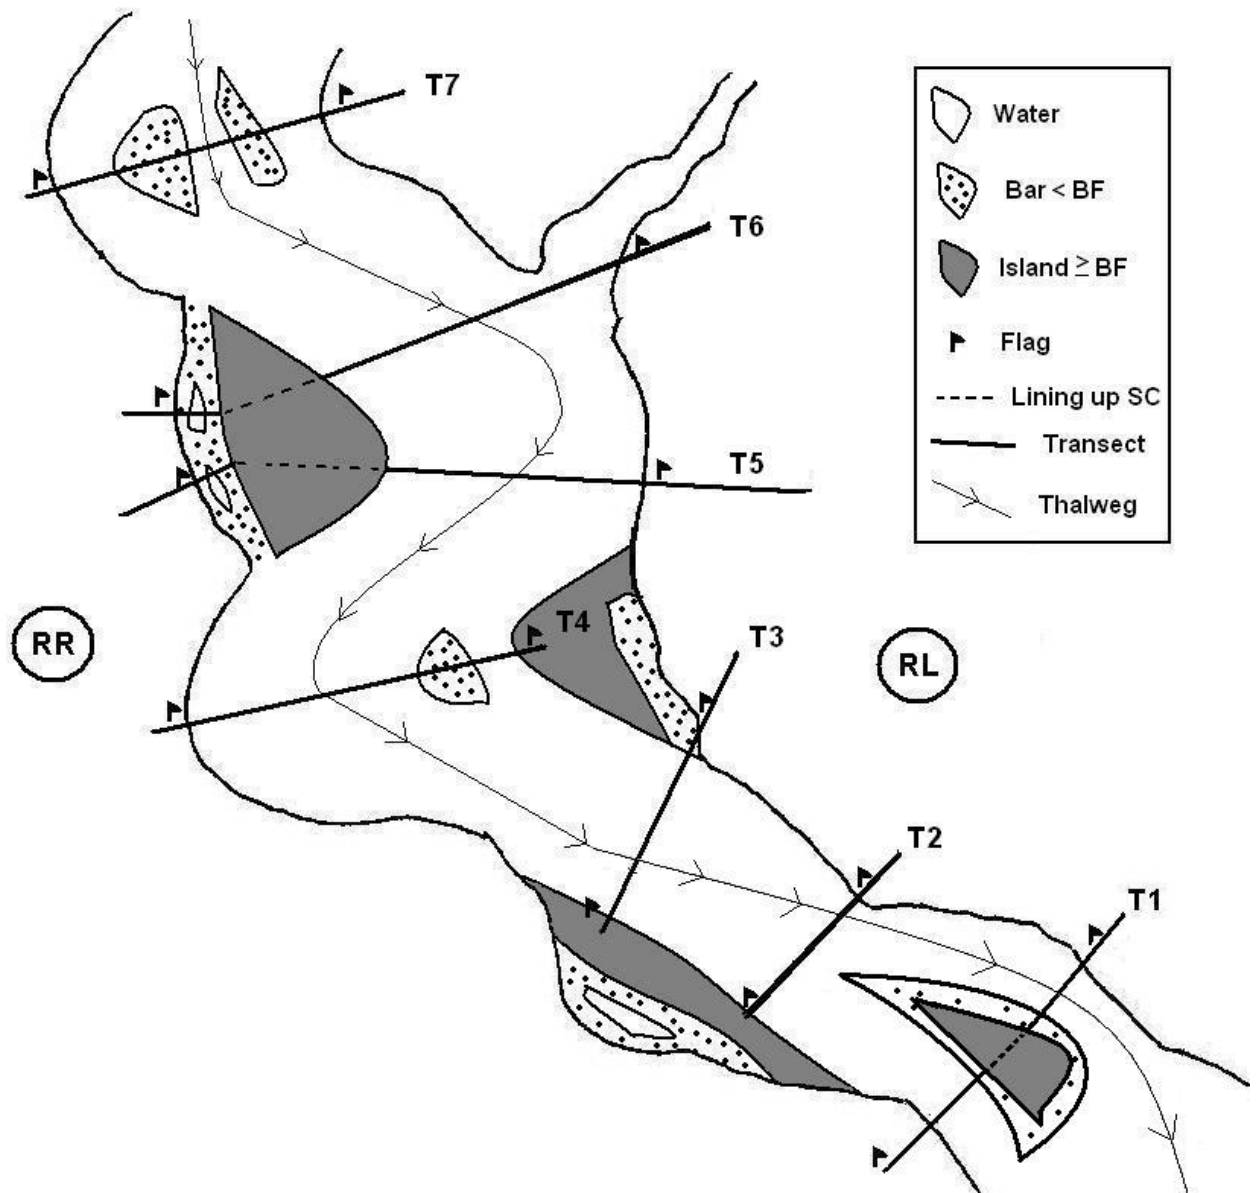

Figure 3: Transect placement when side channels are encountered.
- The main channel (MC) has the thalweg flowing through it; additional channels are referred to as side channels.
- A side channel (SC) is any channel separated directly from the main channel by an island (T1, T5, and T6 in Figure 3).
- Channels that are separated from the main channel by bars are considered part of the main channel (T4 and T7 in Figure 3).
- Place flags in all side channels that have flowing water through their entire course or would have flowing water at bankfull (see T1, T5, and T6 in Figure 3).
- Do not consider tributaries, as separate side channels, though they can be considered part of the main channel at the confluence (T6 in Figure 3).
- Imagine water flowing at BF height, include side channels if water would flow continuously through the channel at bankfull flows (Figure 3).